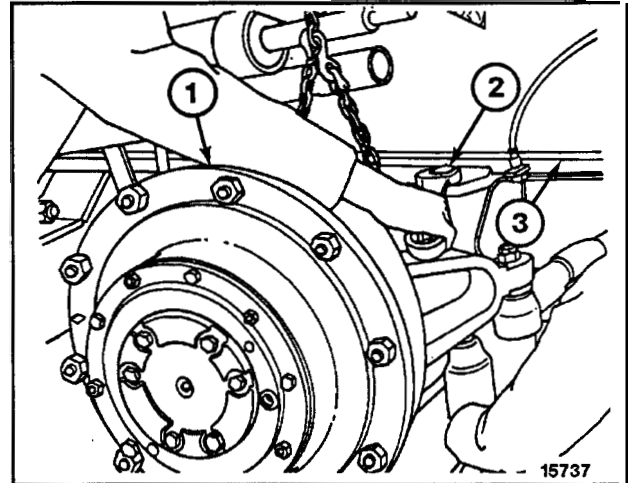

Figure 132
1. Using a fork lift or other similar device, position axle assembly (1, Figure 132) under crane.